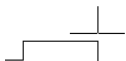

**Figure 4-13:** Drawing with direct distance entry enables you to specify coordinates by typing in a length after you move the pointer in the desired direction.
6. Move the mouse horizontally to the right and then type 2 ↵. Your drawing should look like Figure 4-13.